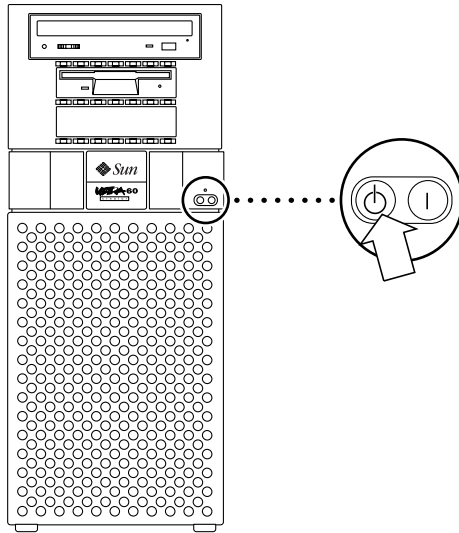

FIGURE 2-1 System Power-Off (Front Panel)
4. Set the front panel power switch to the Off position (FIGURE 2-1).